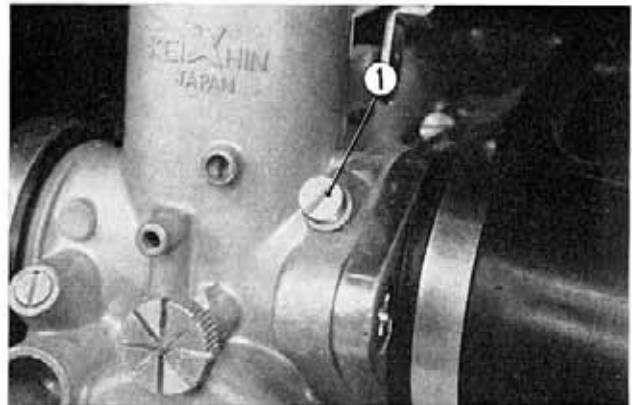

Fig. 6-16 ① plug
② Throttle stop screw
- a. Stop the engine and remove the plug of adapter attachment hole on each carburetor bodies. Attach the adapters of vacuum gauge to all carburetors: the long adapters (A) are for inside carburetors and the short ones for outside carburetors. Fit the vacuum gauge hose securely on the adapters. (Fig. 6-16, 17)